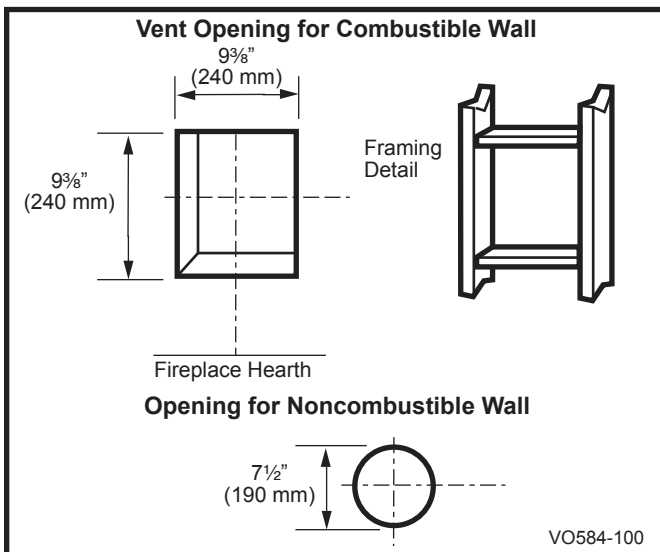

Fig. 15 Locate vent opening on wall.
Locate vent opening on the wall. It may be necessary to first position the fireplace and measure to obtain hole location. Depending on whether the wall is combustible or noncombustible, cut opening to size. (Fig. 15) (For combustible walls first frame in opening.)
**Combustible Walls** (Fig. 15): Cut a 9 3/8" H x 9 3/8" W (240 x 240 mm) hole through the exterior wall and frame.
**Noncombustible Walls** (Fig. 15): Hole opening must be 7.5" (190 mm) in diameter.
1. Establish vent hole through the wall. (Fig. 15)